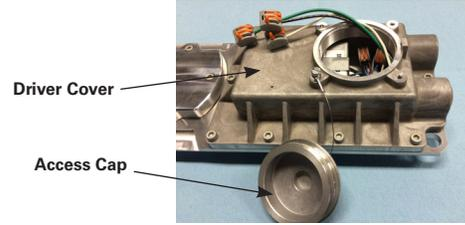

Figure 8
- Open the threaded wiring access cap (see Figure 8) and allow the cap to hang by the lanyard. All components in the fixture are pre-wired so only input power needs to be connected in the fixture to the lead wires (or terminals) per the wiring diagrams (see Figures 10 and 11) using methods that comply with all applicable codes. Terminate the equipment grounding conductor (green) first, the common (white) next, and finally, the line voltage (black) last. For DC voltage applications, connect the positive (+) lead to the white wire and the negative (-) lead to the black wire. Tighten all electrical connections. Note - Standard openings are 3/4" NPT.
4. Open the threaded wiring access cap (see Figure 8) and allow the cap to hang by the lanyard.
7. Remove the ten (10) socket head cap screws and lock washers from the driver cover using a 5mm hex wrench or bit.